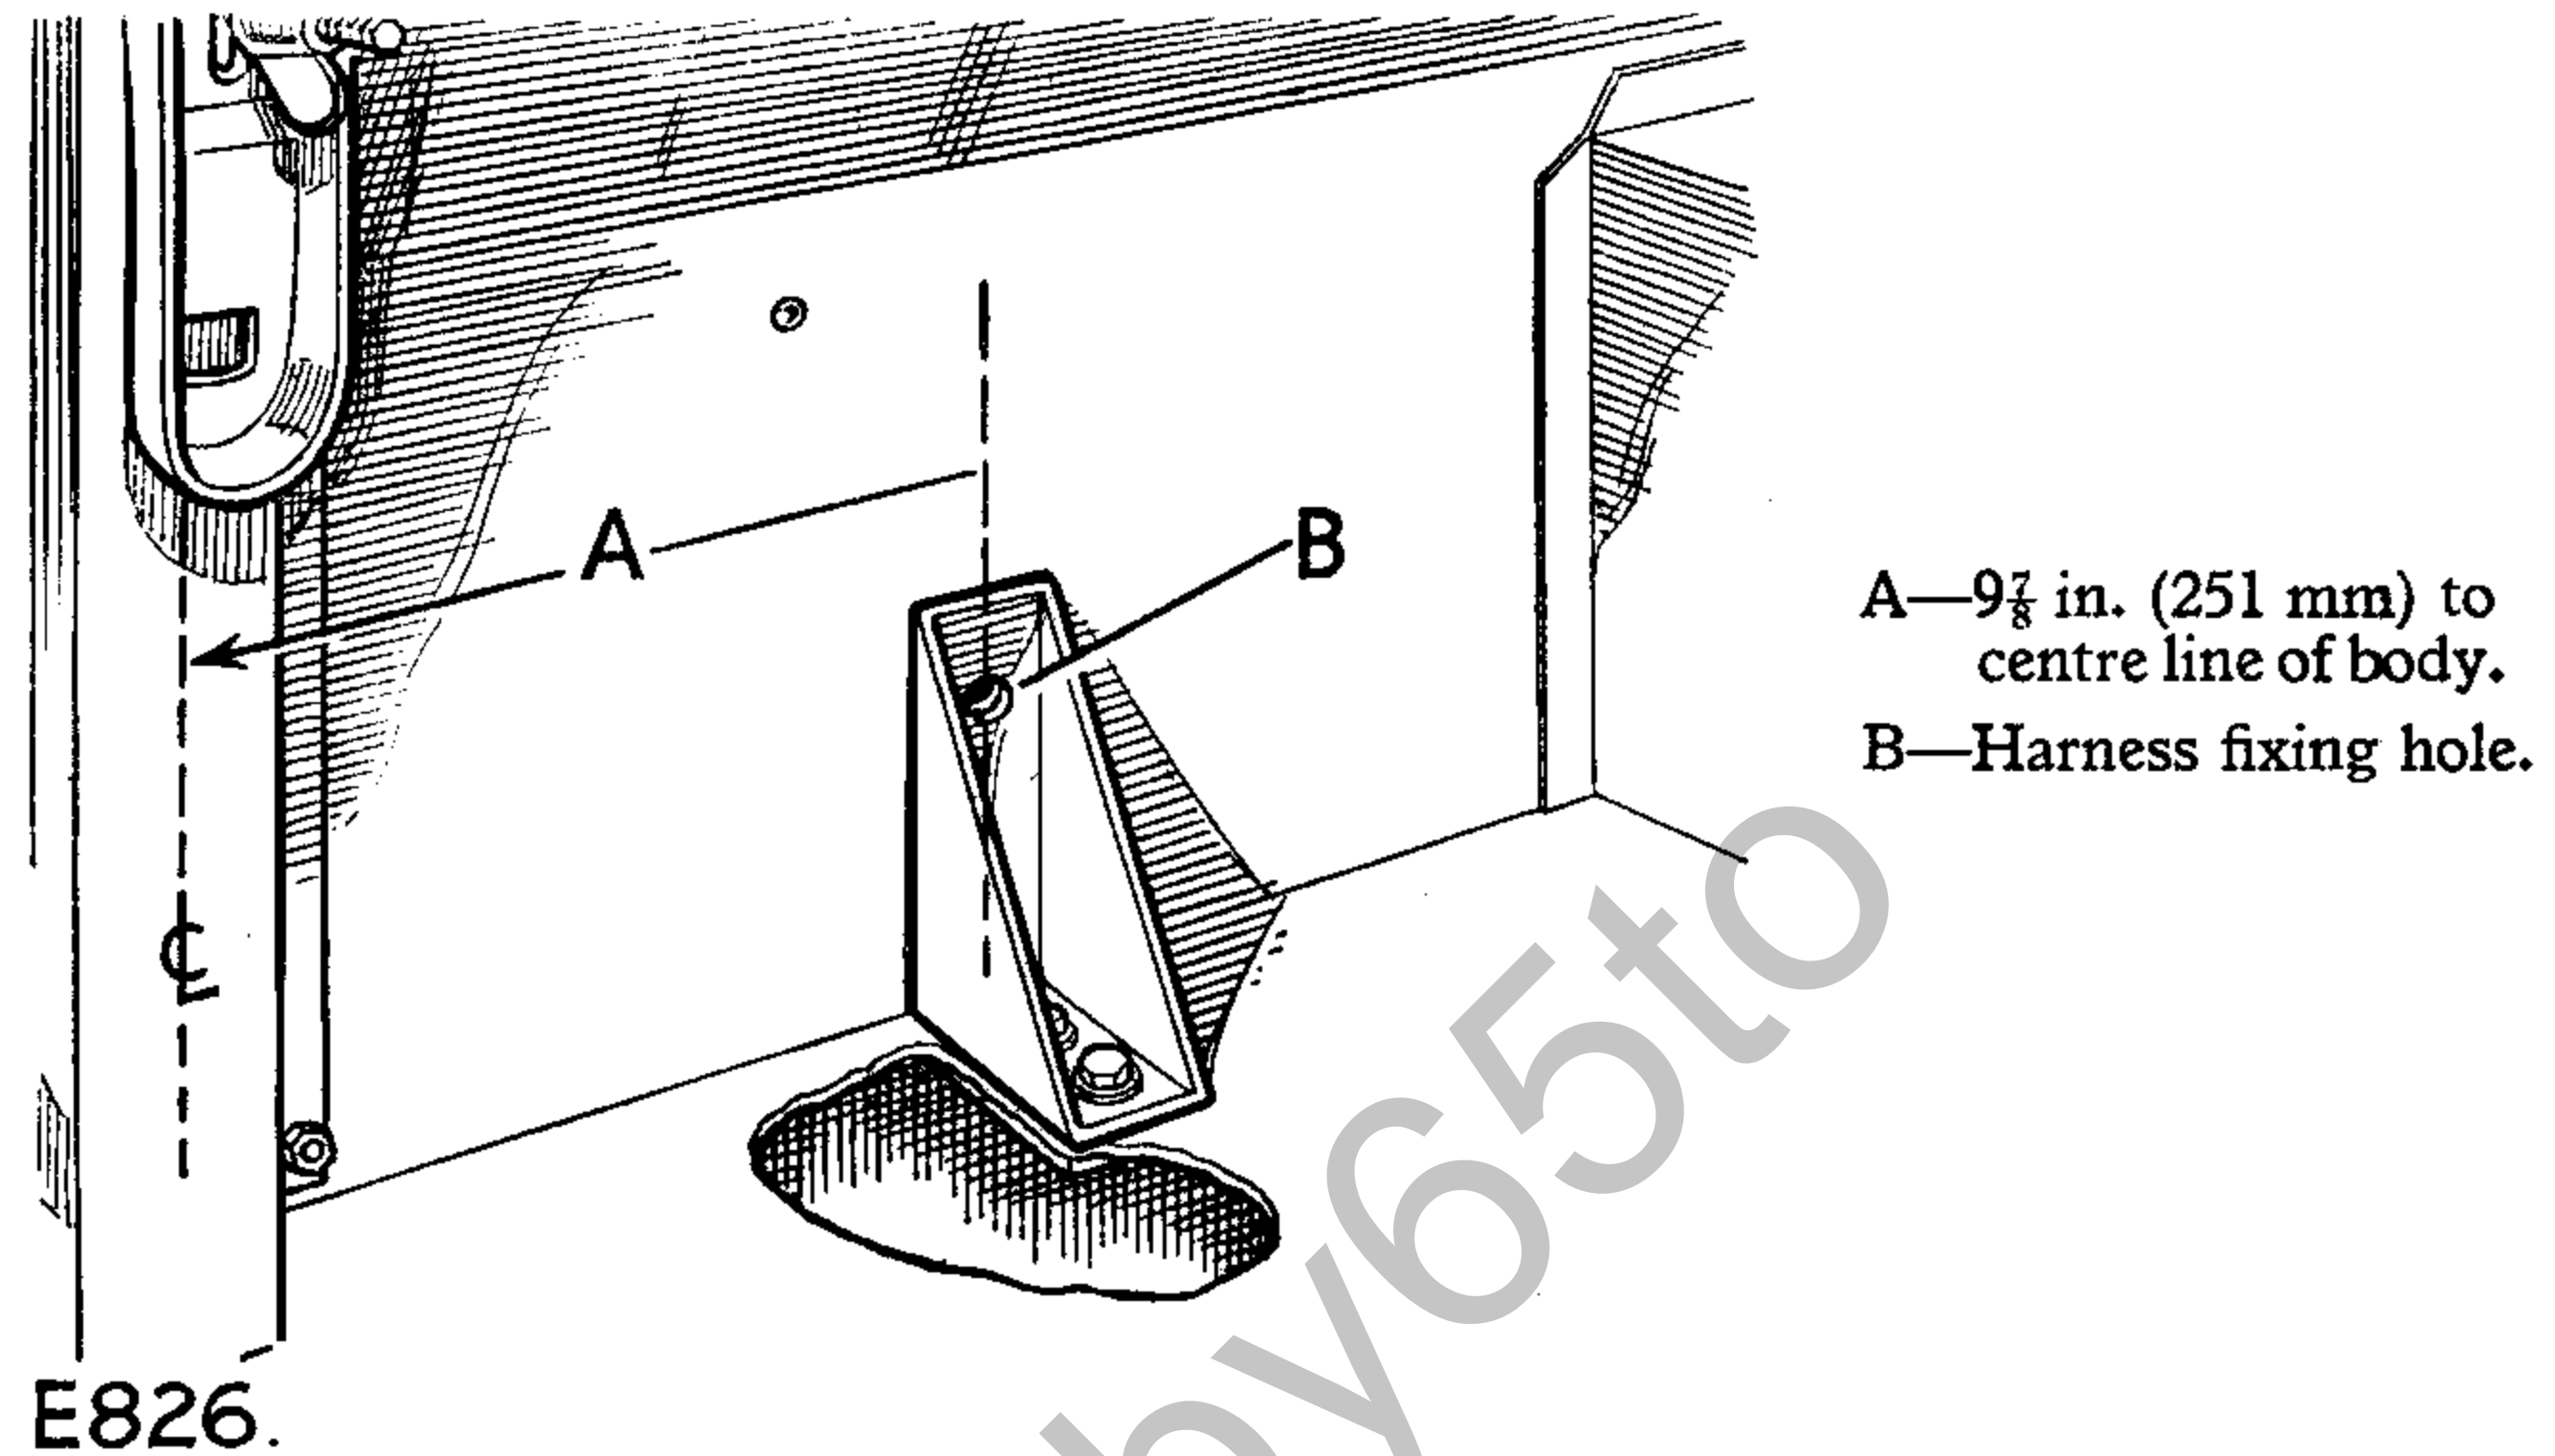

Fig. 2. Bulkhead gusset in position.
5. Mark off a centre line of vehicle on body floor, adjacent to seat bulkhead—then mark a position $9\frac{7}{8}$ in. (251 mm) from the centre line toward body side, as shown in Fig. 2.